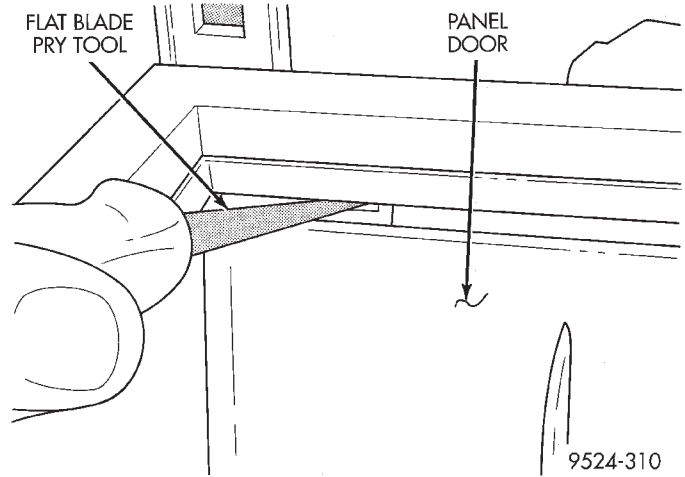
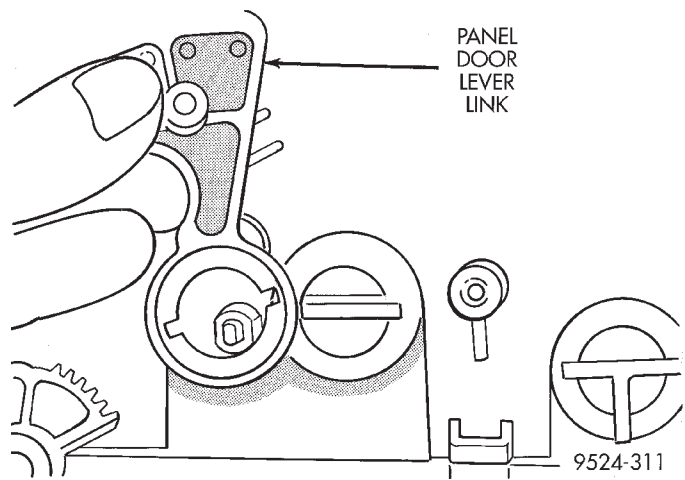

Fig. 103 Panel Door Gear Release
Fig. 104 Panel Door Lever Link
(31) From panel door access, using a long thin screwdriver, push in release tang on panel door gear (Fig. 103).
(32) Remove panel door gear from housing.
(33) Line up slots on panel door lever link. Remove panel door lever link from housing (Fig. 104).